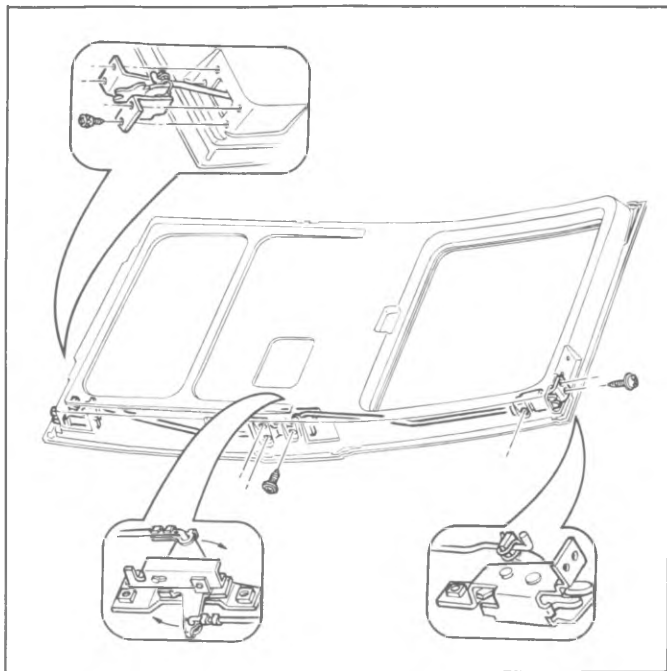

Fig. 2D-126--Remote Control and Latch
2. Disengage rod from remote control assembly. See figure 2D-126.